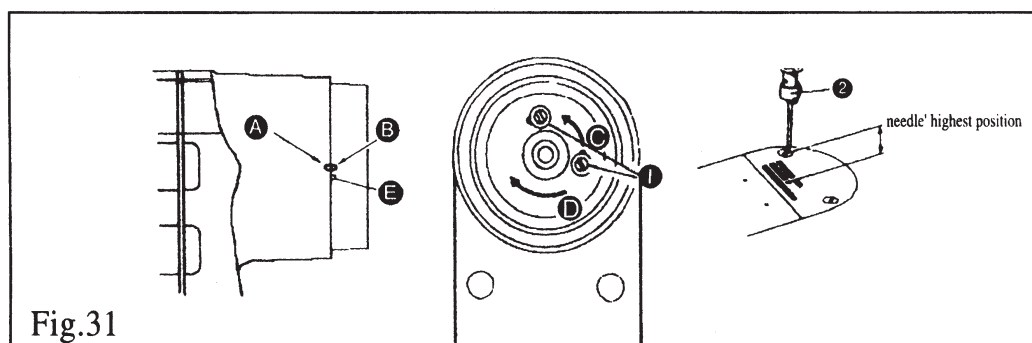

Fig.31
1)When sewing heavy -weight materials, move thread guide①to the left(in directionⒶ) to increase the length of thread pulled out by the thread take-up.
2)When sewing light-weight materials, move thread guide①to the right (in directionⒷ) to decrease the length of thread pulled out by the thread take-up.
3)Normally ,thread guide①is positioned in a way that marker lineⒸ is aligned with the center of the screw.
26. ADJUSTING THE NEEDLE STOP POSITION (FIG.31)